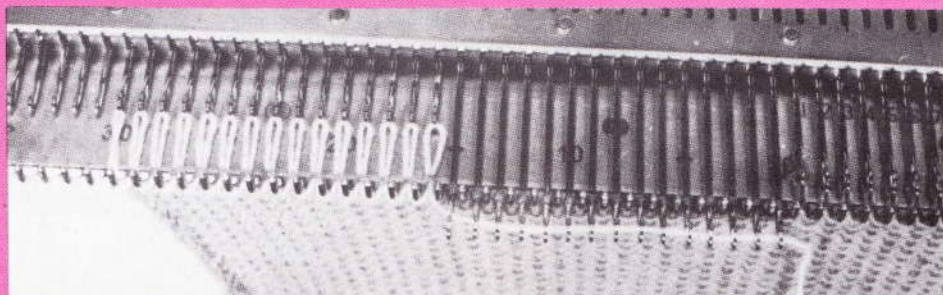

Fig. 167
- using the removable cord knit through by hand the needles to be held and as each stitch is knitted push the needle back to A position (fig. 167).